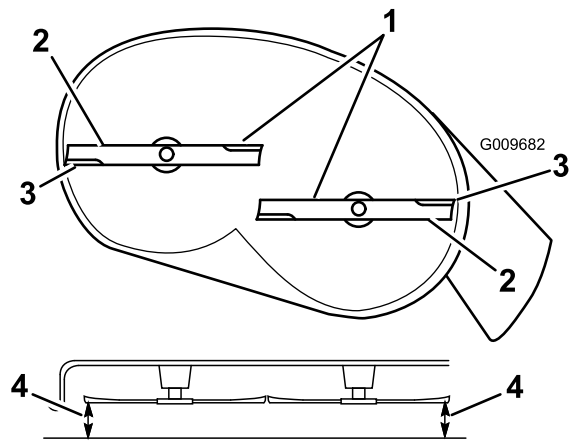

Figure 50
4. Carefully rotate the blade(s) so that they are all side to side (Figure 50 and Figure 50).
5. Measure between the outside cutting edges and the flat surface (Figure 50). If both measurements are not within 5 mm (3/16 inch), an adjustment is required; continue with this procedure.